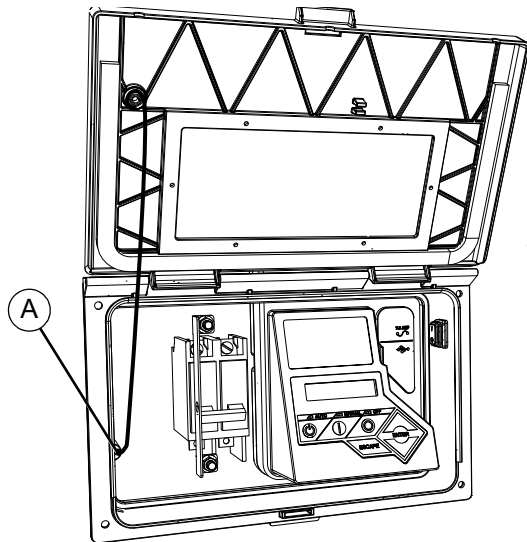
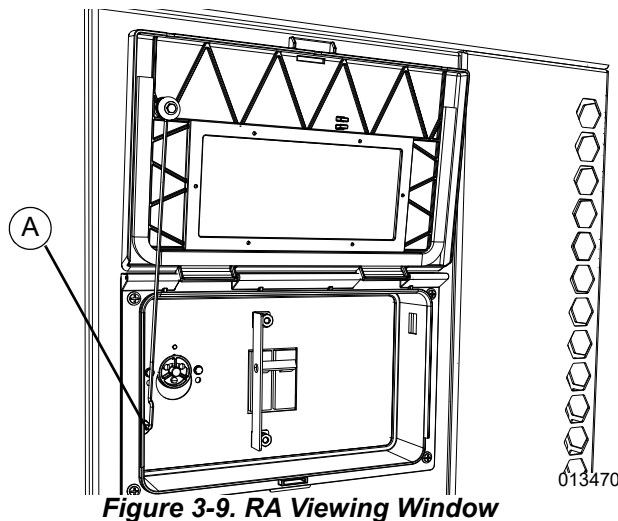

Figure 3-8. RD Viewing Window
Figure 3-9. RA Viewing Window
2. See Figure 3-8 and Figure 3-9. To hold viewing window open, remove rod from clip at back of window and insert into hole in frame (A).